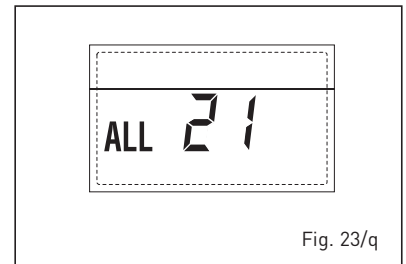

Fig. 23/q
**- SAFETY THERMOSTAT INTERVENTION SECOND MIXED ZONE "ALL 22" (fig. 23/r)**